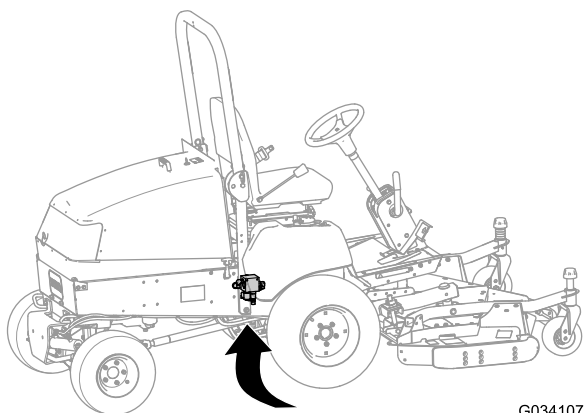

Figure 15
2. Locate the lift manifold from under the machine, inboard the right frame channel, behind the front axle (Figure 15).